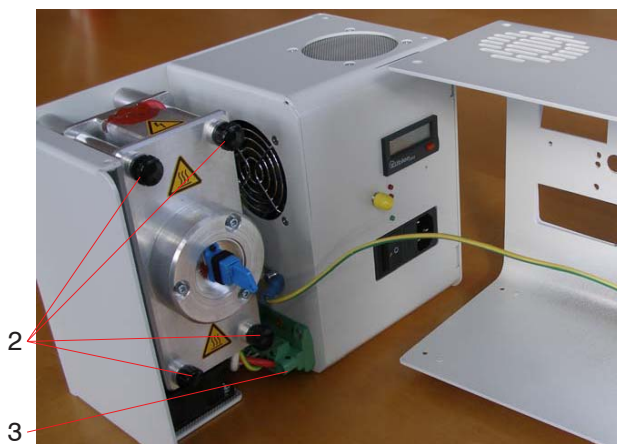

Fig. 71 Open Xenon light source with lamp module
- ➡ Carefully disconnect the green connector (3), see Fig. 71.
- ➡ Manually disconnect and remove the four knurled screws (2) with caution. Remove the lamp module.